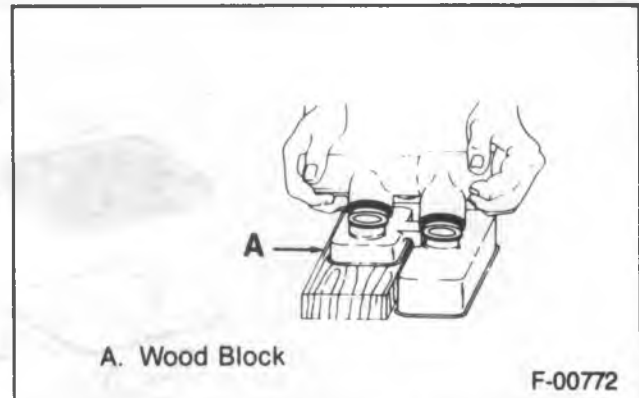

Figure 12—Installing the Reservoir
1. Spring (6) and spring retainer (7).
2. Seals (8 and 10) onto the secondary piston (9).
3. Secondary piston (9).
4. Primary piston assembly (12).
5. Snap ring (11).
6. Grommets (4).
7. Reservoir (3) (figures 12 and 13).
8. Diaphragm (2) into the cover (1).
9. Cover (1).